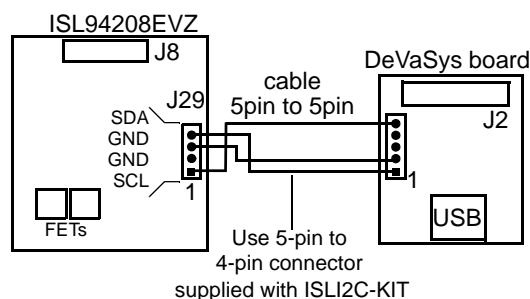

FIGURE 5. I2C connection to ISL94208 PCB
- Connect the I2C cable from the DeVaSys board to the ISL94208EVZ as in Figure 5. Use the 5-pin to 4-pin cable provided in the ISLI2C-KIT.